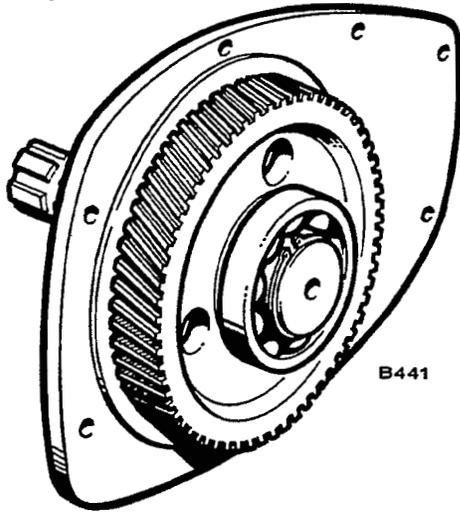

FIGURE 49. GEAR CASE PLATE REMOVED
- Remove six 5/16 x 1-inch cap screws and two 5/16 - 1-1/4-inch cap screws and gear case plate, Figure 49.